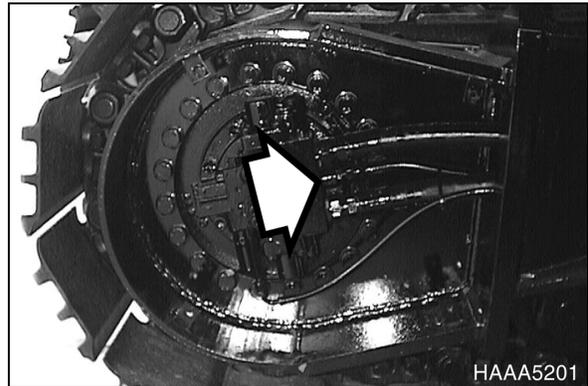

Figure 83
2. Disconnect drain hose (Figure 83) and fill motor case with hydraulic oil.